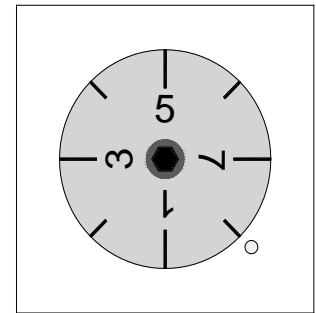

figure 41
The threading dial indicator (48) shown in (fig. 41) is located on the left hand side of the apron. It is used when cutting imperial threads and tells you when to engage the half nut to begin the threading process. The indicator face has eight lines and four numbers printed on the dial. An indicator pin is located at the bottom of the rim. The dial is mounted to a shaft that has a small gear mounted at the opposite end. By loosening a socket capscrew you can pivot the housing to either engage or disengage from the leadscrew. When engaged, the dial will turn as the spindle rotates. If the dial does not turn, re-adjust the housing position.